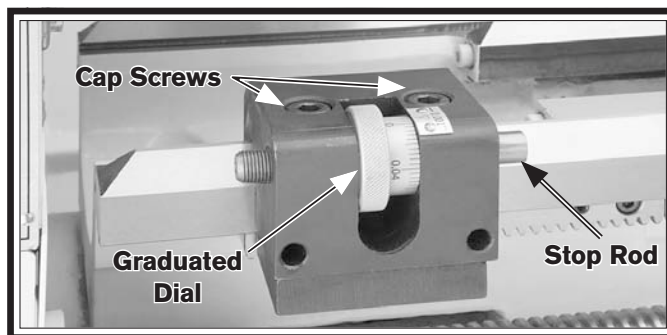

Figure 62. Micrometer stop.
2. Loosen the cap screws shown in **Figure 62**, then use the carriage handwheel to position the carriage and cutting tool at the desired stopping point.